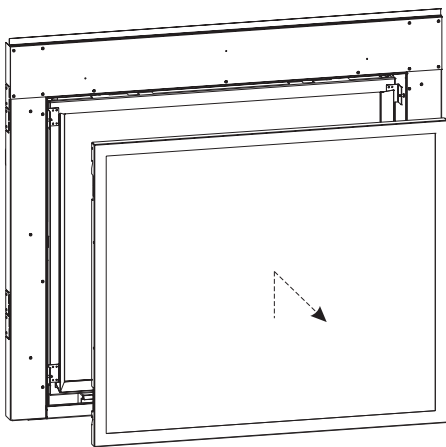

Figure 85
2. Use the Glass Latch Tool to grip the latch bar and pry it over the Glass Frame hook flanges. Tilt the Glass Frame towards you and pull upwards to remove it from the unit. (See Figures 85 and 86)